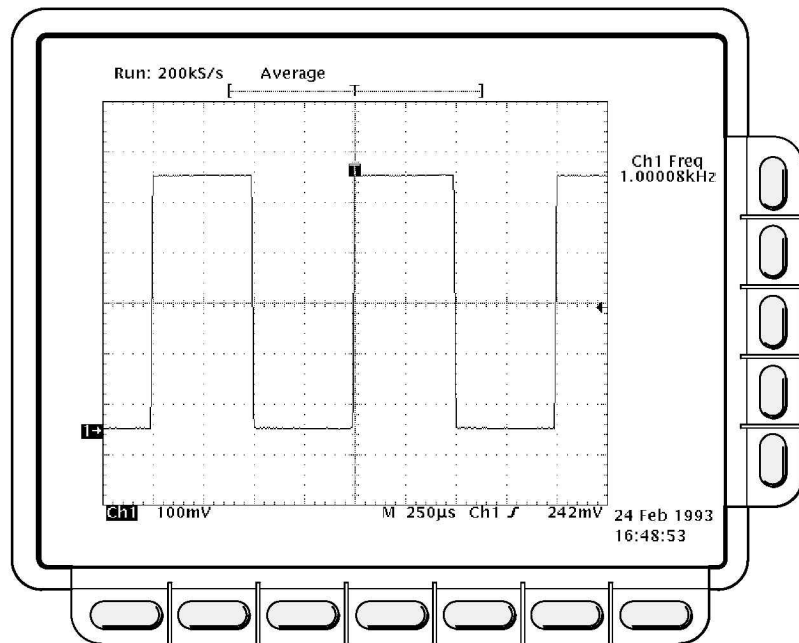

Figure 4-23: Measurement of Probe Compensator Frequency
b. *Check against limits:* CHECK that the **CH 1 Freq** readout is within 950 Hz to 1.050 kHz, inclusive. See Figure 4-23.